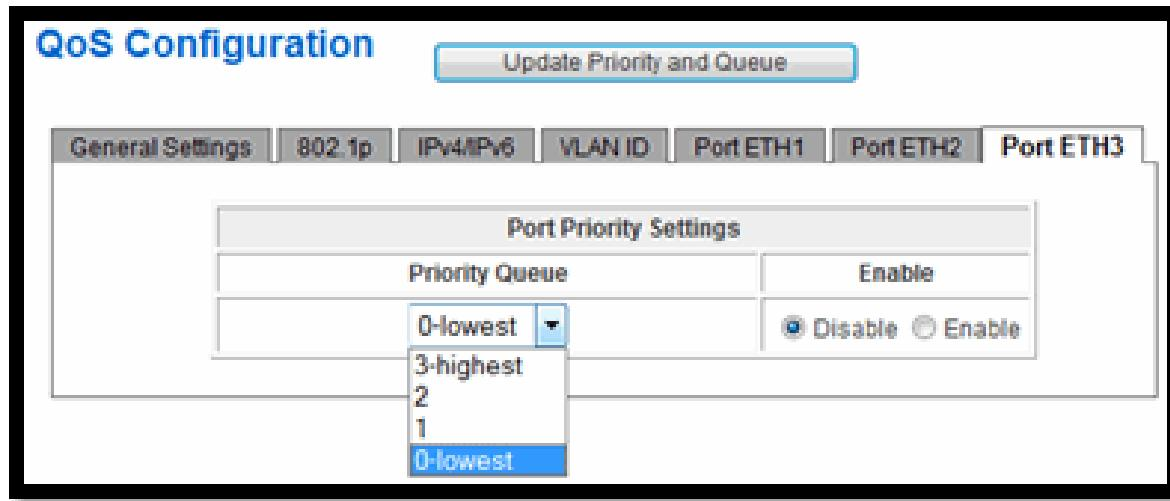

Figure 41 Port based QoS mode
- Port (models with multiple Ethernet ports only): Prioritizes traffic based on the Ethernet port (Figure 41); all traffic connected to the port is assigned to that priority queue.